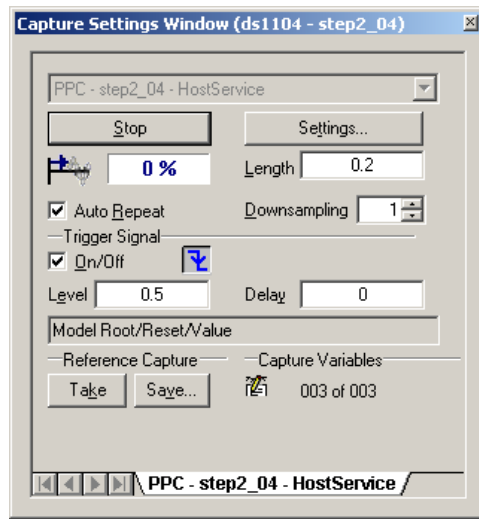

Figure 4.5: Current Waveform
- Now, you will observe that every time you uncheck the Reset control in your layout the plot area will display the current and it will stop when it reaches the maximum measurement time. Set the **Length** to 0.2 (see Fig.4.5). This will set the data capture time as 0.2s which is large enough to observe the whole transient process in current.